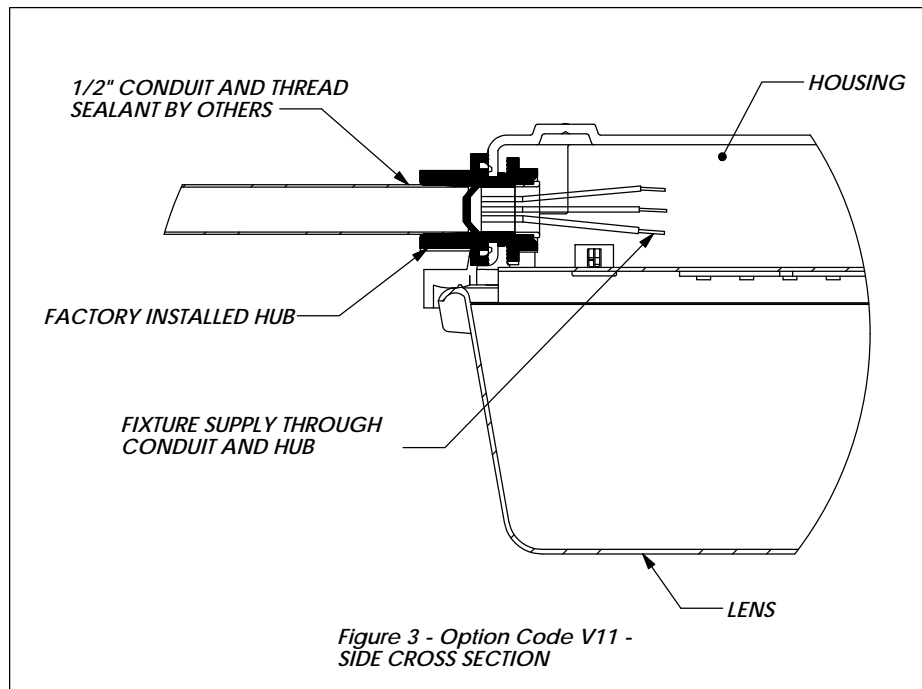

Figure 3 - Option Code V11 -
6. IF OPTION CODE V11 IS CHOSEN, ATTACH A SEALED 1/2" EMT CONDUIT TO SUPPLIED MOUNTING HUB(S). [Figure 3]